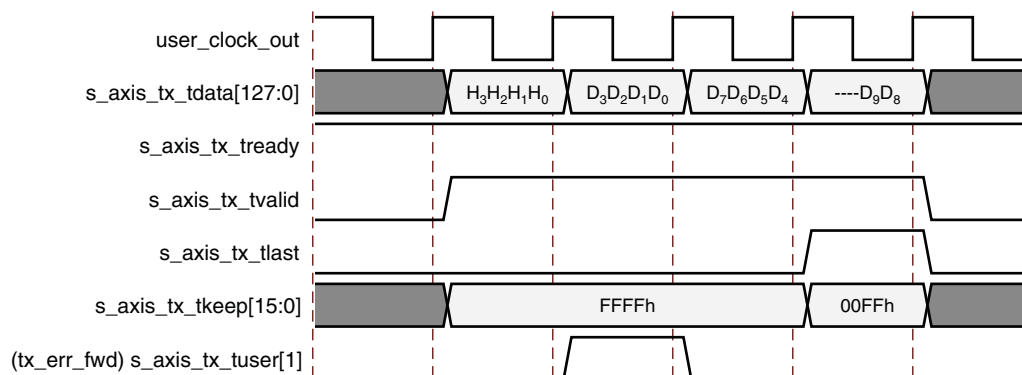

Figure 3-39: Packet Data Poisoning on the Transmit Interface
- Assert `s_axis_tx_tuser[1]` (`tx_err_fwd`) for at least one valid data transfer cycle any time during the packet transmission, as shown in Figure 3-39. This causes the core to set EP = 1 in the TLP header when it transmits the packet onto the PCI Express fabric. This mechanism can be used if the user application does not know whether a packet could be poisoned at the start of packet transmission. Use of `tx_err_fwd` is not supported for packets when `s_axis_tx_tuser[2]` (`tx_str`) is asserted (streamed transmit packets). In streaming mode, you can optionally discontinue the packet if it becomes corrupted. See Discontinuing Transmission of Transaction by Source, page 51 for details on discontinuing packets.